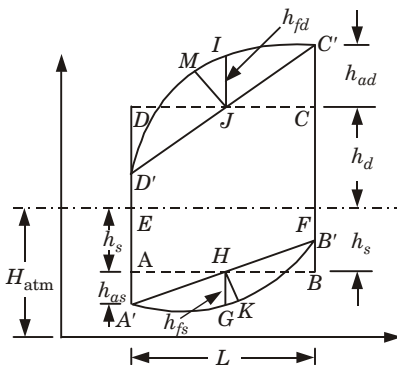

Fig. 5.33.1.
1. Fig. 5.33.1 shows a complete indicator diagram including the effects of acceleration and friction.